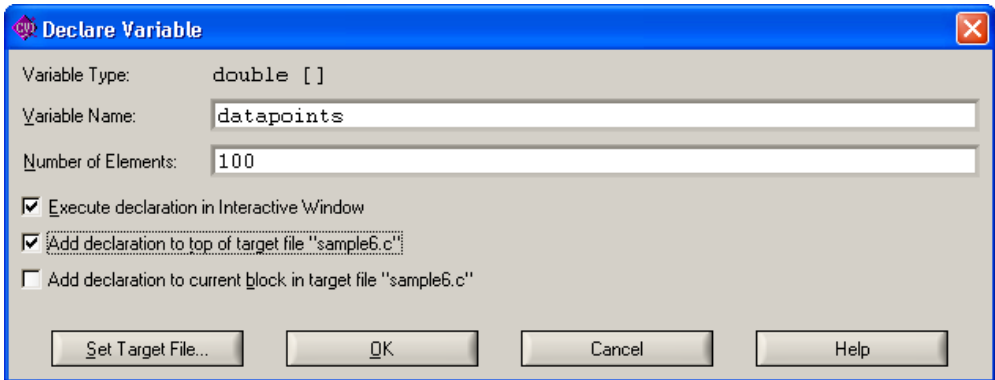

Figure 8-3. Declare Variable Dialog Box
4. Select **Code»Declare Variable**. In the Declare Variable dialog box, enter 100 as the **Number of Elements**. Enable the **Add declaration to top of target file “sample6.c”** option. Confirm that your Declare Variable dialog box matches the one shown in Figure 8-3.